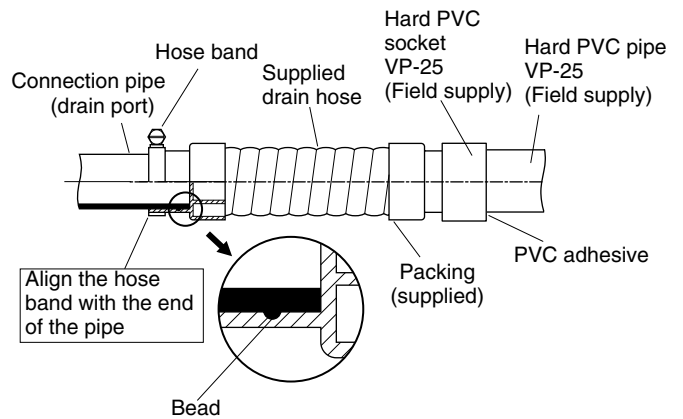

Fig. 3-37
The PVC pipe must be purchased separately. The unit's transparent drain port allows you to check drainage. (Fig. 3-37)
- Insert the drain pipe until it contacts the socket, as shown in Fig. 3-37, then secure it tightly with the hose band.
- Align the hose bands with the end of the hose. Tighten the hose band firmly. Please make sure that the bead is not covered by the hose band. (Fig. 3-37)
**Tighten the hose clamps so their locking nuts face upward. (Fig. 3-37)**